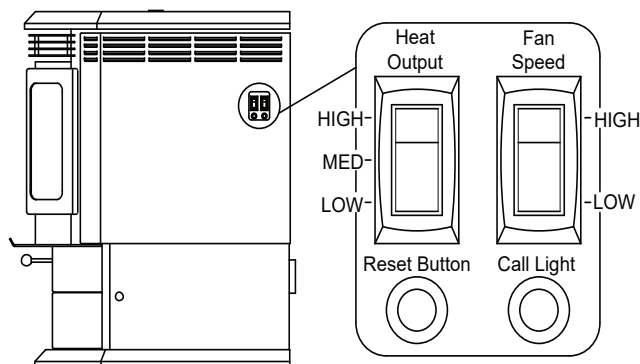

Figure 10.1
The appliance is like most modern furnaces; when the thermostat calls for heat, your appliance will automatically light and deliver heat. When the room is up to temperature and the thermostat is satisfied, the red call light will go off and the appliance will shut down (Figure 10.1).
3. Locate the heat output control switch mounted on the right side. Switch it to the high setting by pushing the top of the switch in, then adjust the thermostat to its highest setting. The red call light located on the upper right corner of the right side panel will be on. This indicates the thermostat is calling for heat (**Figure 10.1 on page 10**).
3. Occasionally the appliance may run out of fuel and shut itself down. When this happens, the red call light will be on (See Figure 10.2, page 10). To restart it, fill the hopper and press the reset button (See Figure 10.1, page 10). When you press the reset button the red call light will go out. Release the button and the light will come back on. You should see a fire shortly. If not, follow the instructions on page 11, of “Starting Your First Fire”.